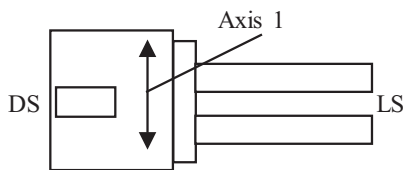

Fig. 1
- Trans. reach       R/L                (Lever 4 / Joystick rocker + button (3))
- Add. hydr.1        R/L                (Lever 4+add. button/joystick rocker+add. button (4))
**Remark:** For joystick axis 1, see Fig. 1